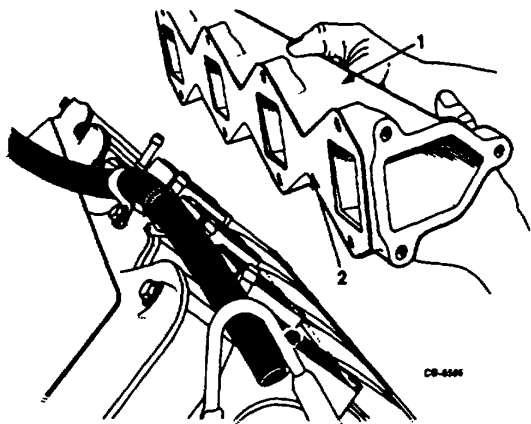

Figure 25. Left Intake Manifold Removal
8. Remove left intake manifold (Figure 25).
9. Remove eight mounting bolts from the left bank intake manifold (Figure 25).